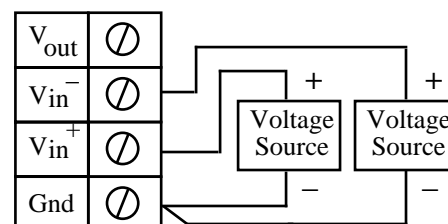

Fig 3.1 - Singled-Ended Voltage Measurement Mode with Two Signal Sources.
3. Wire your voltage source per figure 3.1, and refer to the steps at the beginning of this chapter for more information on how to set up your sensor.